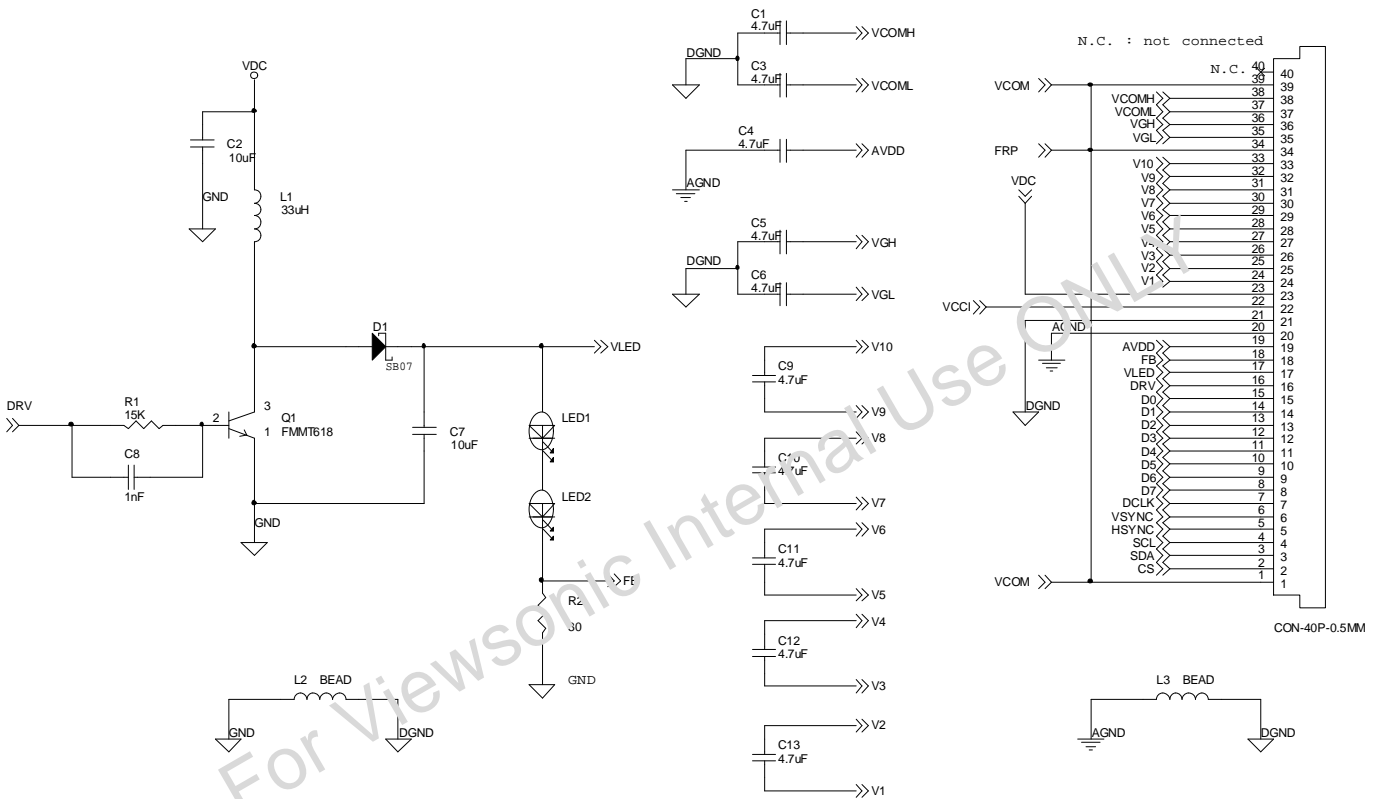

Fig.13 Typical Application Circuit
The integrated driver IC provides build-in LED booster controller, DC-DC charge pump, and Vcom driver. See Fig. 13 for the application circuit.
According to Fig. 13, the L1, Q1, D1, and C7 together form the LED boost converter. The converter with 0.75V feedback (FB) and R2 provide a constant 25mA current for LED backlight unit. The boost converter switching signal DRV is generated based on divided frequency of DCLK. Therefore the DCLK input is required for LED driver operation, and the absence of DCLK signal during normal operation will set the driver IC into standby mode. A low ESR capacitor for C7 is recommended in order to reduce voltage ripple of VLED. The built-in LED boost controller is default active, and it is able to be turned off by setting the register SHDB1 to low.